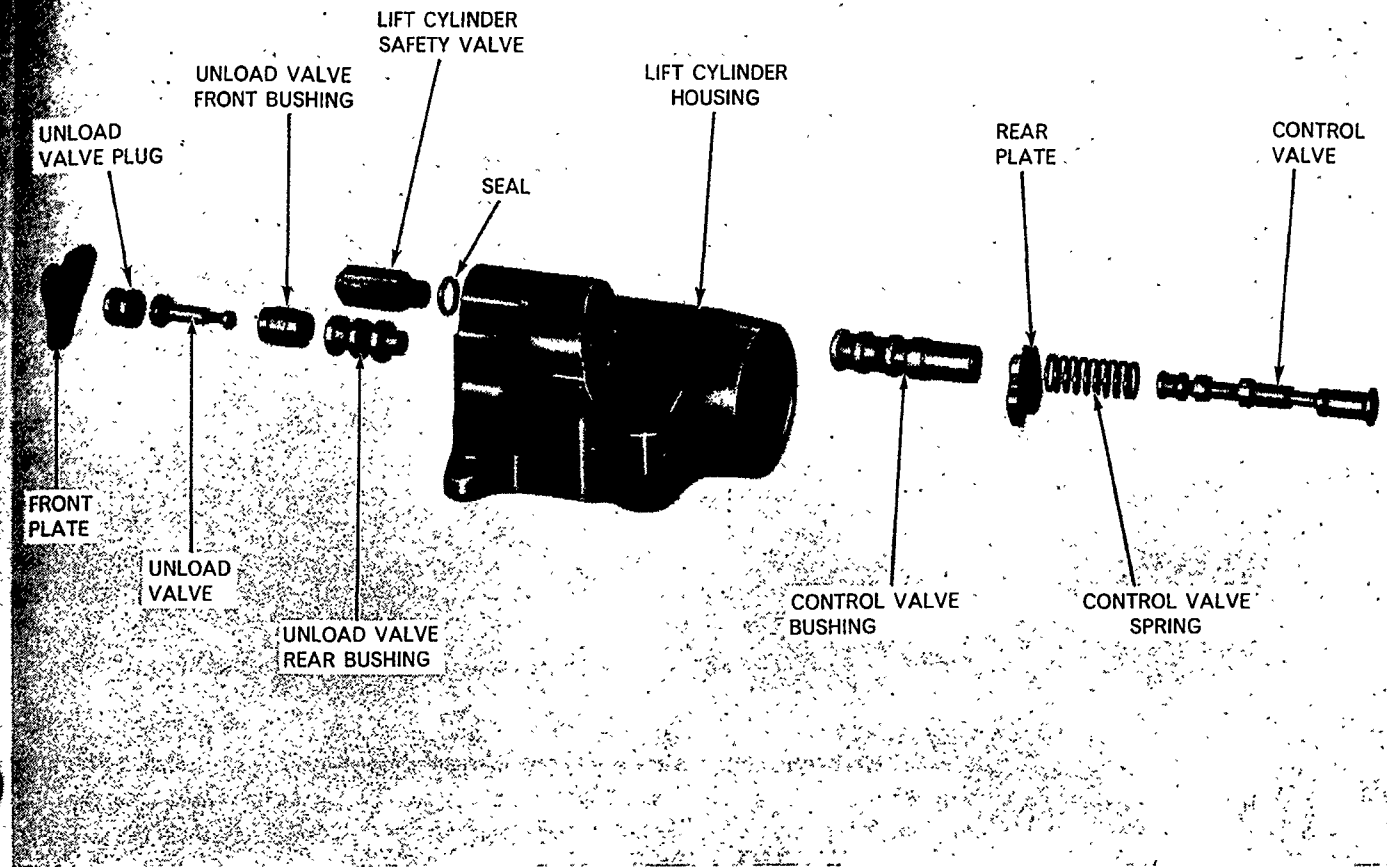

Figure 20
An exploded view of the lift cylinder assembly is shown Figure 20.
5. Remove the three bolts securing the front cover plate, Figure 20, to the lift cylinder and remove the plate.